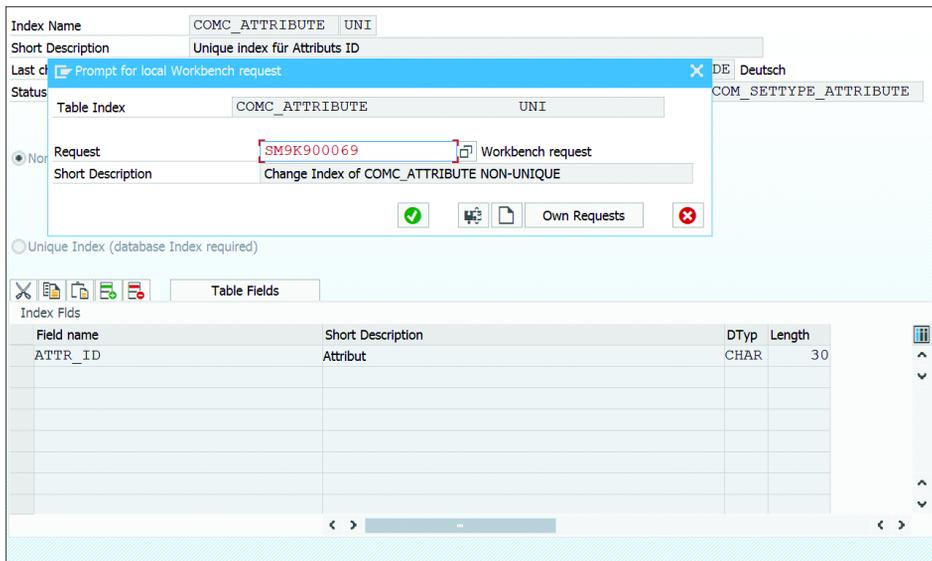

Figure 72 Save Changes To a Transport
8. Save the change and save it to a transport (see Figure 72).